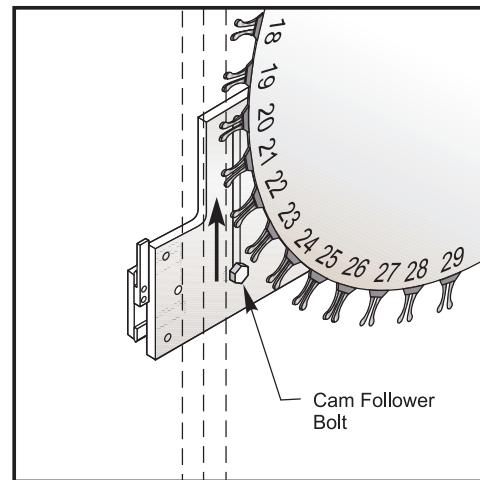

Figure 4
21. The next step requires the tool changer carousel to be manually shuttled into the machine enclosure. To shuttle the carousel out, its shuttle arm must be fully rotated. First, reach in through the tool changer's window, push up on the cam follower bolt (as shown in Figure 4.) and then move the carousel to its fully extended position in the enclosure. Verify that it is fully extended by inspecting the location of the cam follower bolt. The cam follower bolt should bottom out at the end of the guide slot.